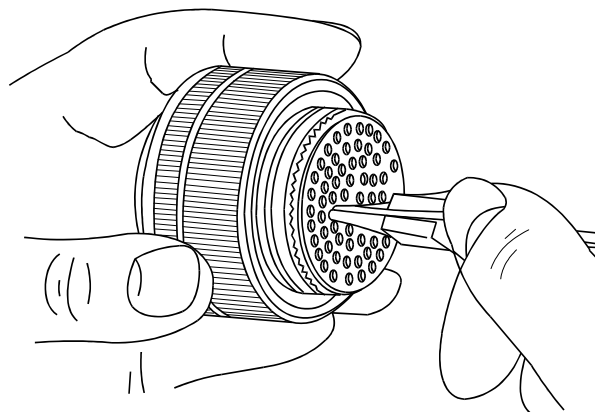

Figure 10-28 Broken Wire Contact Removal
48. Type tools for inserting contacts into front release connector inserts are shown in Figure 10-28. There is a separate tool for each contact size. Contact sizes are listed in Table 10-8. An indicating band on the working end of the tool determines the correct depth of tool insertion. Use these tools to insert contacts in front release connectors with removable contacts.
- b. Select the correct insertion tool. Insert the crimped end of the contact into the hollow end of the insertion tool, and lay along handle (see Figure 10-28).
51. Typical tools for extracting contacts from front-release connector inserts are shown in Figure 10-28. The sizes for each contact are listed in Table 10-8. This tool has a hollow cylindrical probe which fits snugly over the pin or socket end of the contact and releases the insert retention clip when pushed over the contact. Two indicating bands determine correct depth; the band nearest the working end of the tool is for pin contacts, the other for socket contacts. The extraction tool has a thrust assist collar (or slide) which is pushed forward to eject the contact from the insert retention clip by means of an internal plunger. Use these tools to remove contacts from front release connectors with removable contacts.
- a. Using the insertion removal tool, insert the white tip 3.0 mm into rear of connector as shown in Figure 10-28.